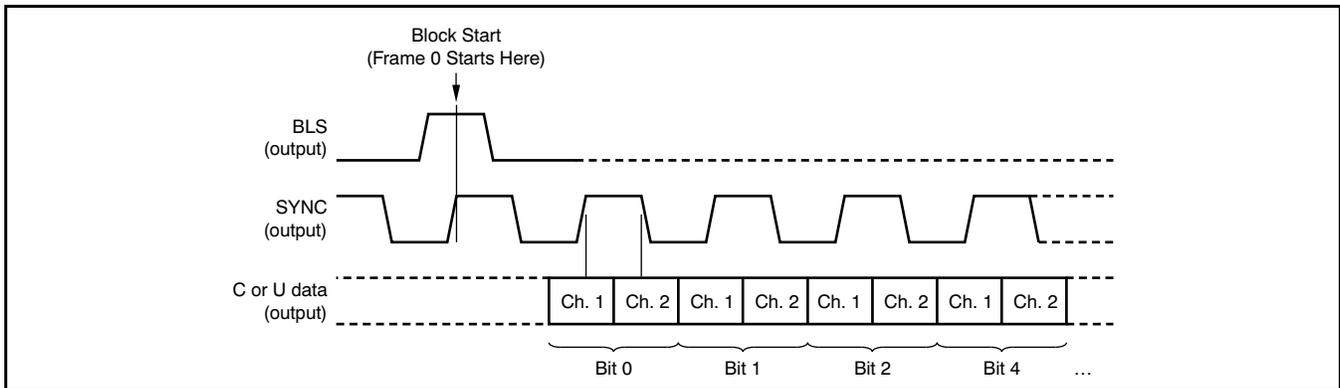

Figure 71. DIR Channel Status and User Data Serial Output Format Via the GPO Pins
The decoded audio data, along with the internally-generated sync clocks, may be routed to other function blocks, including Port A, Port B, the SRC, and/or the DIT. The decoded channel status and user data is buffered in the corresponding Receiver Access (RA) data buffers, then transferred to the corresponding User Access (UA) data buffers, where it may be read back through either the SPI or I2C serial host interface. The contents of the RA buffers may also be transferred to the DIT UA data buffers; see Figure 65. The channel status and user data bits may also be output serially through the general-purpose output pins, GPO[4:1]. Figure 71 illustrates the output format for the GPO pins when used for this purpose, along with the DIR block start (BLS) and frame synchronization (SYNC) clocks. The rising edges of the DIR SYNC clock output are aligned with the start of each frame for the received AES3 data.